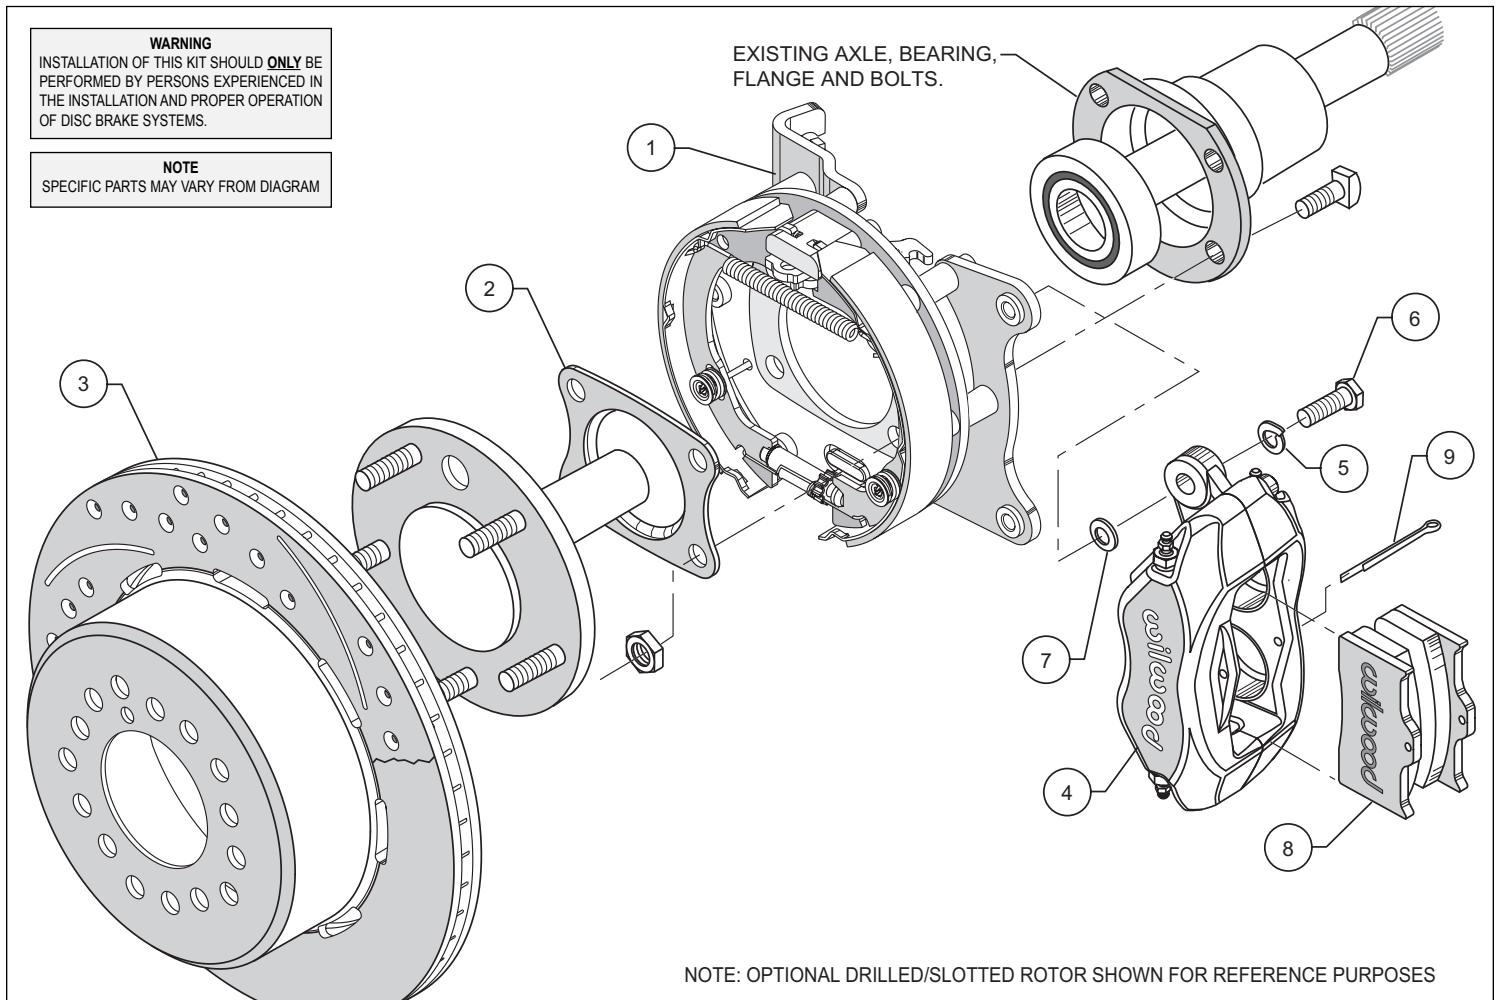

Figure 1. Typical Installation Configuration
- Full Circle Retainers** require the utilization of a qualified machine shop to press off the axle bearing and OEM retainer. Then have machine shop install new retainer (2), supplied with bracket kit with lip facing toward bearing, reference Figures 1, 4 and 5 (we suggest that you install a new bearing at this time, not supplied with kit).
- “U” Retainers** require the removal of the OEM retainer by cutting or grinding a notch in the retainer to facilitate removal. Once OEM retainer is removed, install new retainer (2) supplied with bracket kit with the “U” opening facing up and the lip facing toward bearing, reference Figures 1, 4 and 5.